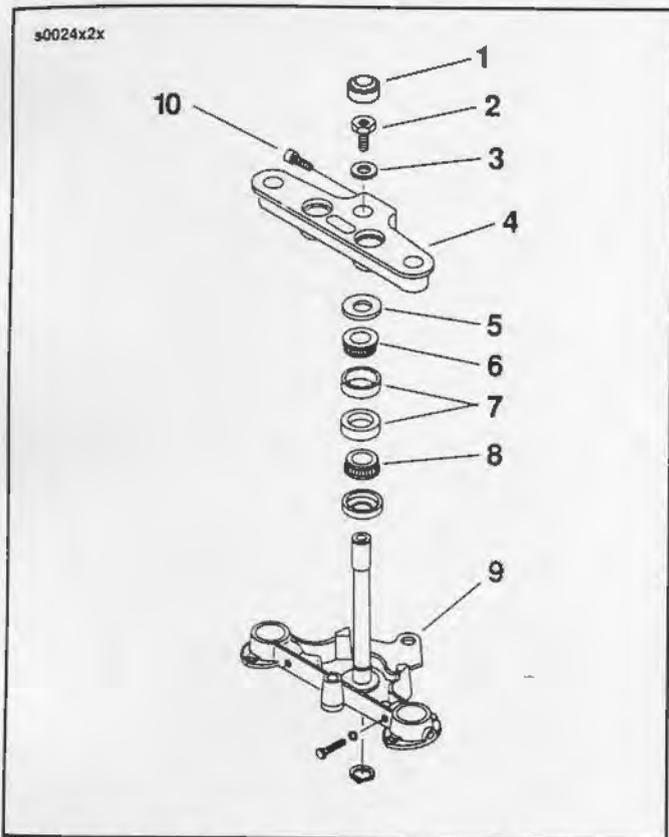

Figure 2-79. FLSTC, FLSTF Steering Head Assembly
4. See Figure 2-79. Remove the brake hose bracket from the bottom of the fork stem and bracket (9).
1. See Figure 2-79. Insert the fork stem and bracket assembly (9) into the frame steering head and install the upper bearing and dust shield (5).
2. Install the upper bracket (4), a new washer (3) and fork stem bolt (2). Tighten the fork stem bolt until the bearings have no noticeable shake. Fork stem must turn freely from side to side. Tighten pinch bolt (10) to 21-27 ft-lbs (28-37 Nm).